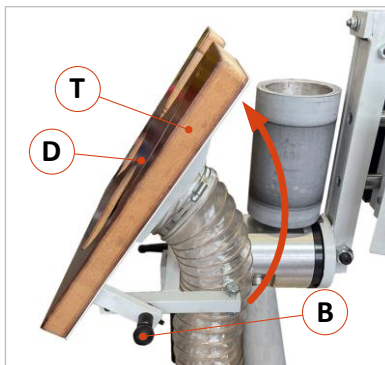

Figure 31: Fold table to 45°
- Switch off the main switch (1) and secure it by locking it.
- Fold the side table (T) upwards to the 45° position and engage it via the locking bolt (B) so that the revolving turret head is free and can be rotated (see ⇒ Figure 31).
- Then turn the turntable (D) in the side table to the position that matches the selected drum until it engages there (see ⇒ Figure 31).
- Carefully fold the side table (T) back down into the horizontal position.
**After finishing the cylindrical sanding work, refit the sanding cover (B).**